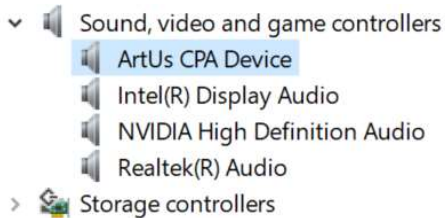
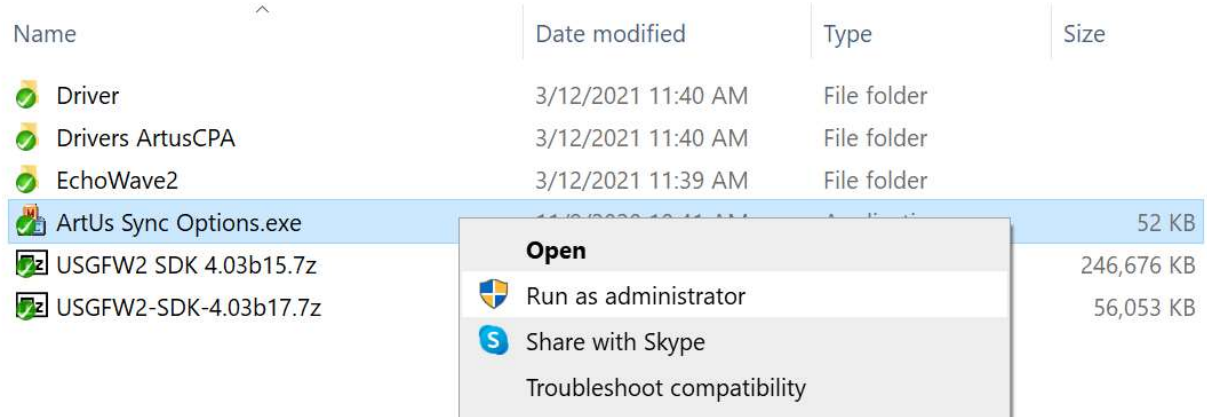

Figure 25: Find properly installed ArtUs CPA Device in the Sound, video and game controller section of the Device manager.
Figure 26: Run “ArtUs Sync Options.exe” as Administrator using Right Mouse Button.
9. Find “\ArtUs\ArtUs Sync Options.exe” and run as Administrator (use RMB), Figure 25. Choose the synchronization option as shown for synchronization of the US (ArtUS) from the PA (ADC256), Figure 26.